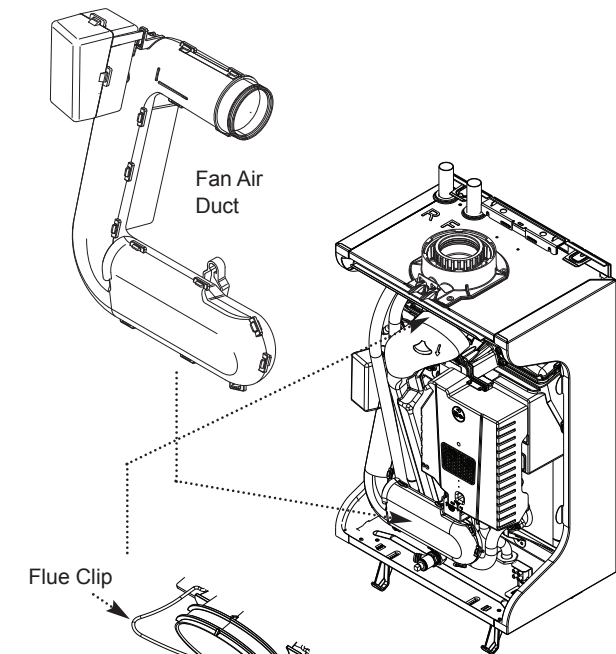

Fig. 42
**10.3.4 Removal of Ducts (Fig. 42)**